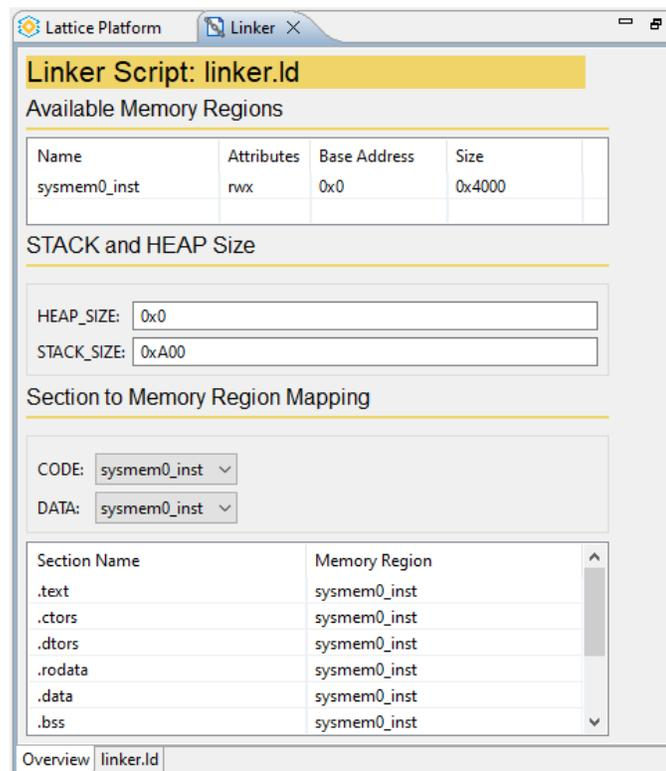

Figure 3.29. Linker Editor
- Linker Editor: An overview of the memory regions of linker script can be displayed. You can modify key linker parameters via the graphical interface (Figure 3.29).